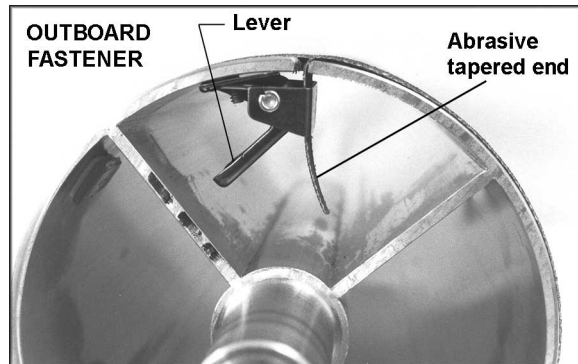

Figure 12
2. Squeeze the fastener lever (Figure 12) on the outboard end of drum, and insert the tapered end of the abrasive so that it uses most of the width of the slot. Release the fastener lever to securely hold the strip end to the fastener.